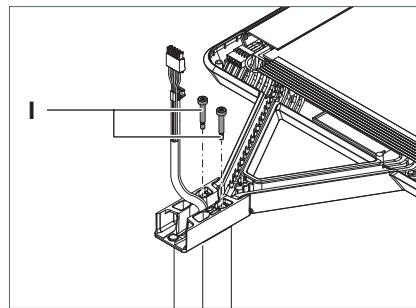

Fig. 7: Fixing luminaire head 1 in place.
- ▶ Tighten the two adjusting screws **I** until the screw heads are flush with the adapter, see Fig. 7.